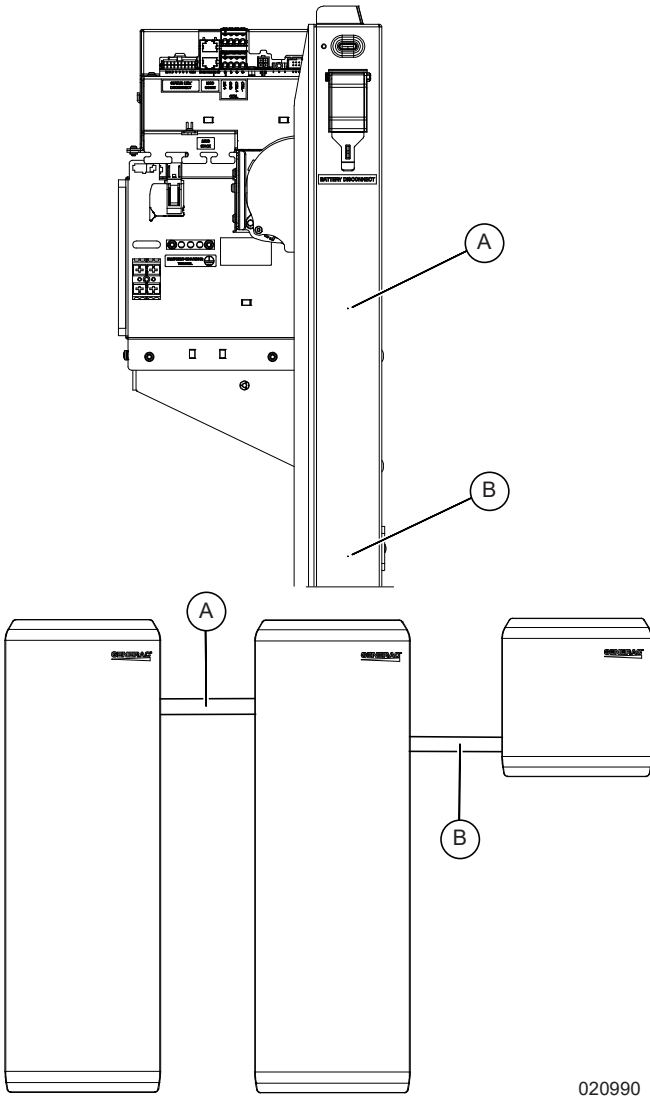

Figure 4-8. Use Dimple Marks to Punch Conduit Holes
1. See Figure 4-8. Locate the dimple marks on the battery enclosure. There are two marks on the right side (as shown) and one mark on the left side, at the same height as mark (A).